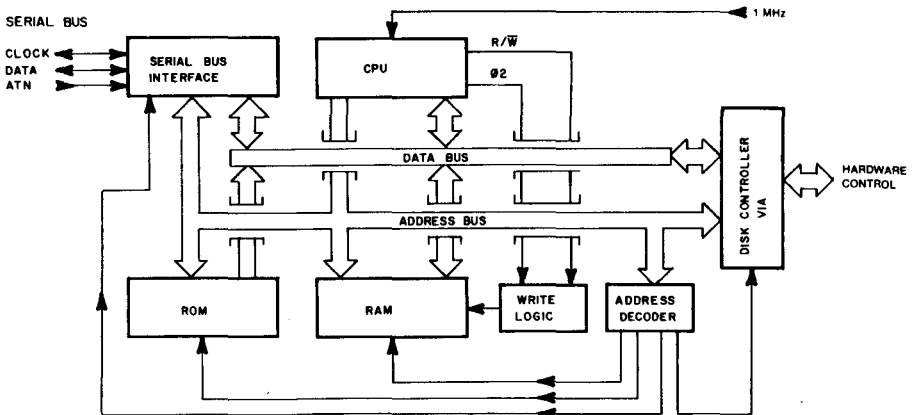

Fig. 7-29. Block diagram of computer circuit, Model 1541.
7.2.4 Computer Electrical Theory (Refer to Figs. 7-29 and 7-30)